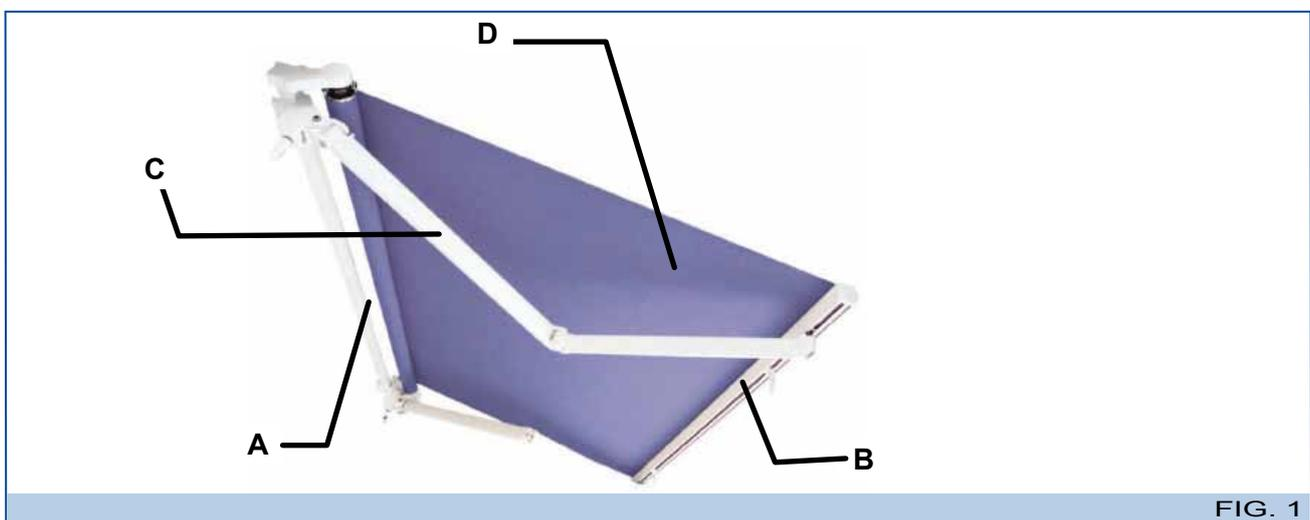

FIG. 1
- **Metal structure:** this consists of a frame containing the various mechanisms for opening and closing the awning. It comprises a square bar (A - Fig. 1), a terminal bar (B - Fig. 1) and mechanised folding arms (C - Fig. 1) fitted with sheathed cables or a stainless steel chain.
- **Fabric (D - Fig. 1):** this covers and protects the awning.